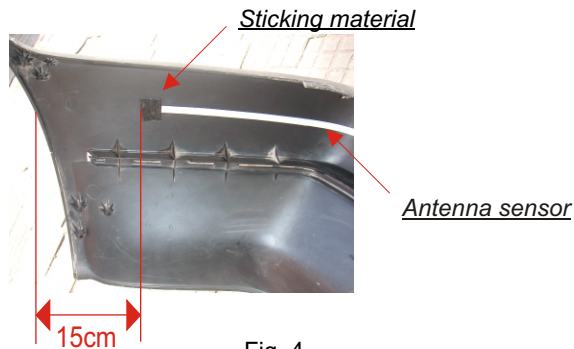

Fig. 4
- 1) It is advisable to start and finish the application of the antenna sensor tape et about 15 cm from the both end of the bumper (Fig. 4).